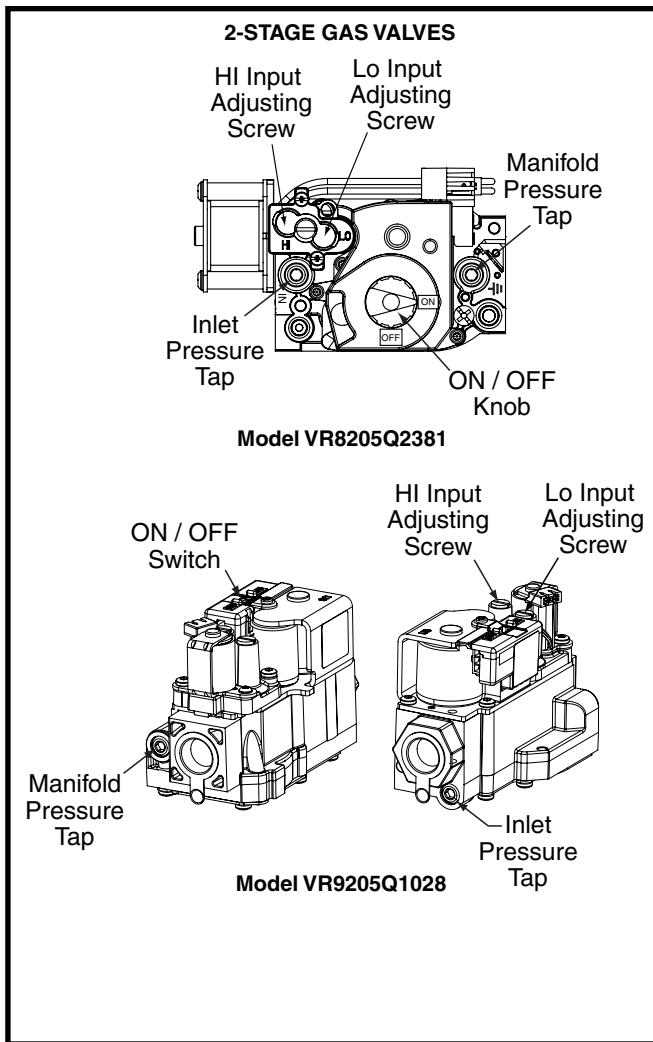

Figure 20. HI & LO Input Adjusting Screws
7. Remove the regulator capscrew from the INLET side of the regulator. See Figure 20, (page 23).